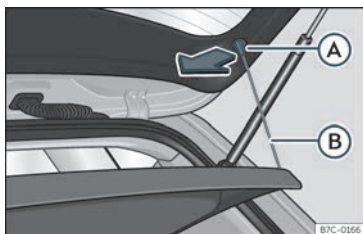

Fig. 104 In the luggage compartment: removing and fitting the shelf.
- Detach the cord loops >>> **Fig. 104** (B) from their hooks (A).
- Hook the loops >>> **Fig. 104** (B) to the rear lid.